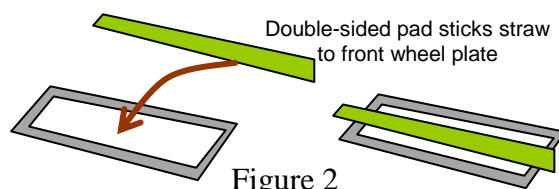

Figure 2
3.1 Attach the loop Velcro pad to the front wheel plate on the opposite side to the double-sided adhesive pad. Remove backing paper from self-adhesive pad, align and attach straw parallel to plate (**Fig. 2.**)